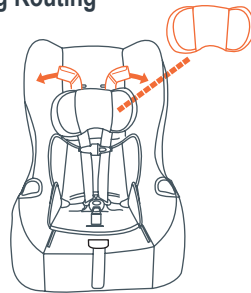

Fig. 41a
1. Remove the head pillow and set aside (Fig. 41a).